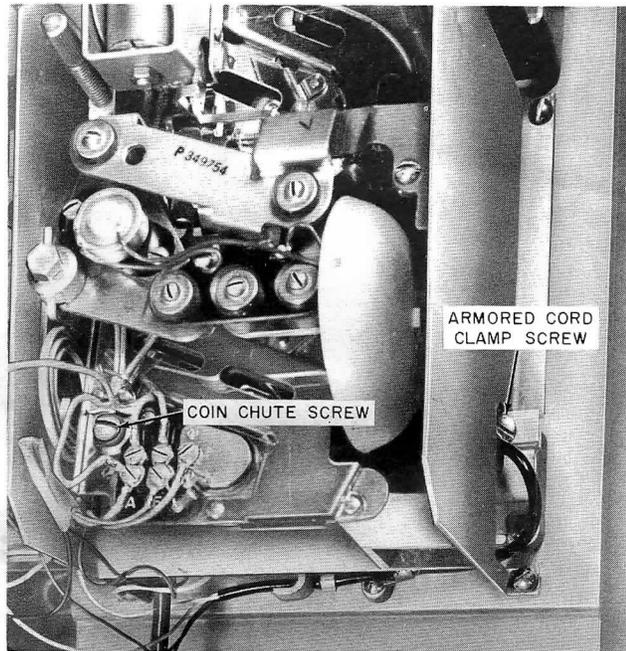

Fig. 6 — Location of Handset Cord Screws
- (2) Remove P-25E445 screw and P-12A681 spring in lower left of coin chute (Fig. 6).
- (1) Remove clamp on armored cord (Fig. 6).